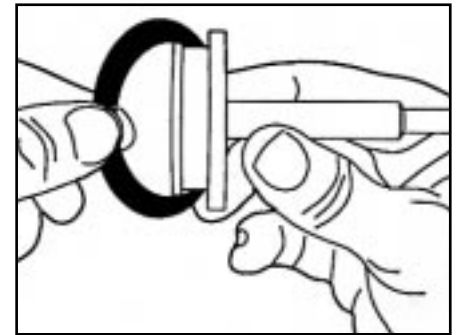

Figure 52
14. Install the U-cup on the piston, and make sure it seats properly in the piston groove. (Fig.52)